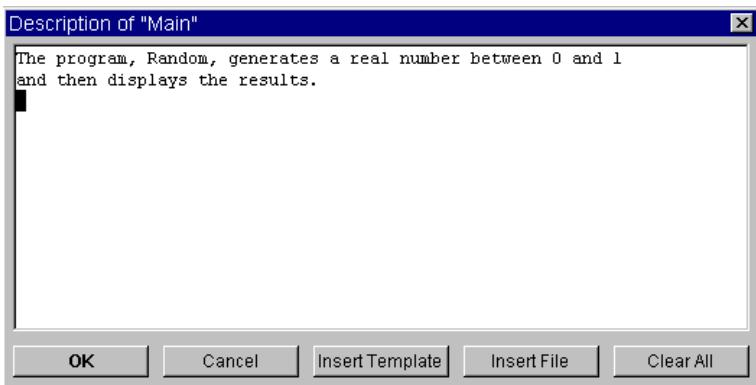

Figure 2-35. The Description Dialog Box
2. In the Main object menu, click `Description`. Type text in the dialog box as shown in Figure 2-35: Click `OK` when you are done.